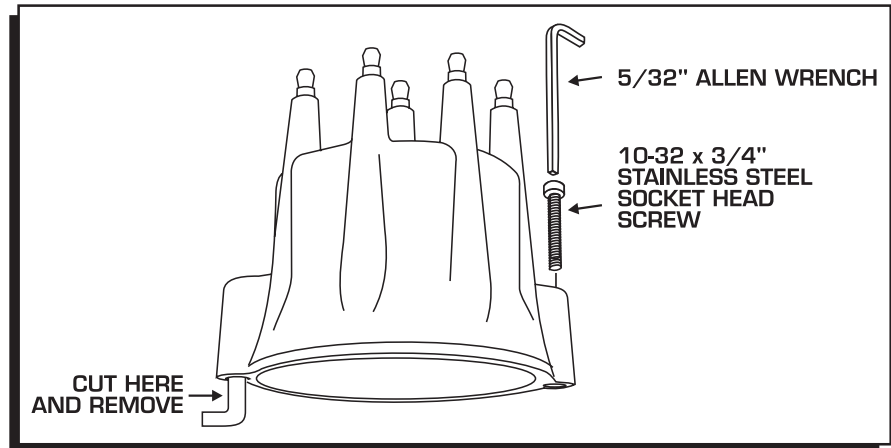

Figure 12 Optional Installation by Bolting the Cap Down.
**Installation Option:** This Cap can also be bolted down to an MSD Pro-Billet or Billet Distributor base with the supplied hardware. To accomplish this, the spring clips must be cut off (Figure 12).